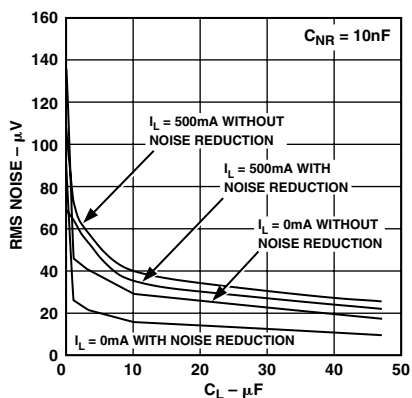

Figure 18. RMS Noise vs. C_L
A noise reduction capacitor (C_{NR}) can be used to further reduce the noise by 6 dB–10 dB (Figure 18) low leakage capacitors in 10 pF–500 pF range provide the best performance. Since the noise reduction pin (NR) is internally connected to a high impedance node, any connection to this node should be carefully done to avoid noise pickup from external sources. The pad connected to this pin should be as small as possible and long PC board traces are not recommended.